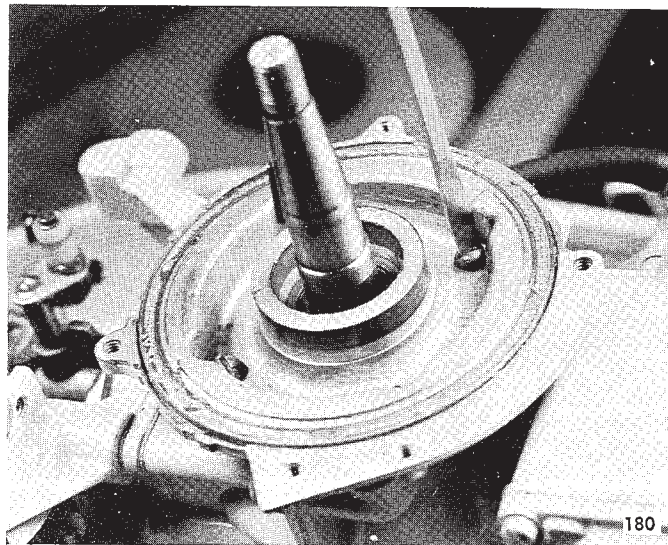

FIGURE 32 — INSTALLING STATOR PLATE
3. Install complete magneto stator plate group to stator ring under crankshaft bearing cage using four (4) attaching screws. Position stator ring, as shown in Figure 32, to facilitate the installation.